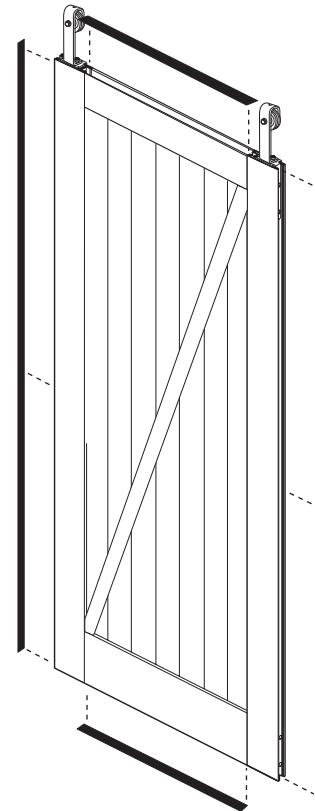

Figure 11
Snap the 2 side finishing strips (M) into place. Snap the top and bottom then the sides (N) into place. See Figure 11.